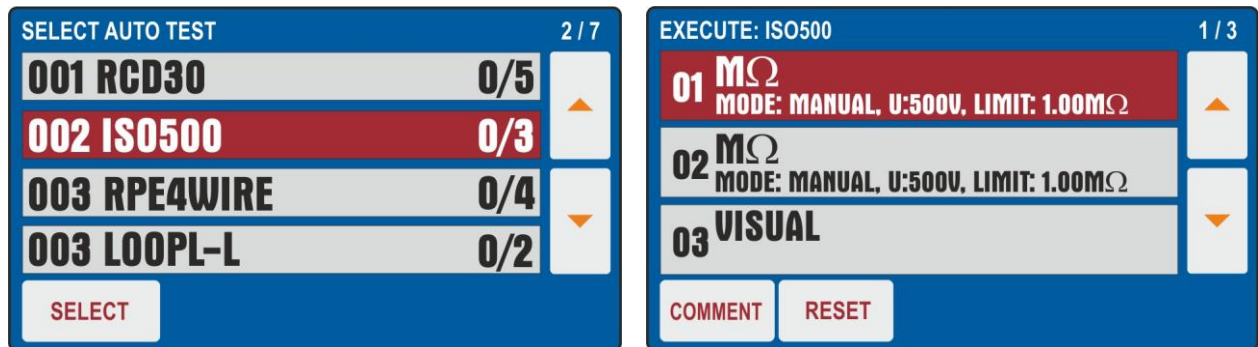

Fig. 76 : AUTO TEST Function - Initial screen
2. Use the ▲ or ▼ arrow keys to select the desired Autotest (ex: Insulation measurement with 500VDC test voltage and 3 tests included) and touch the **SELECT** key or directly the corresponding line. The "0 / X" message in which X = number of tests included in the Autotest indicates that no internal test has been performed. The screen of Fig. 76 - right side is shown on the display